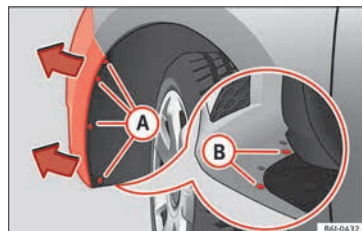

Fig. 106 Fog light: access to the connector and to the light bulb holder.
- Remove the 4 bolts ① » Fig. 106 from the inside of the wheel housing and the 2 bottom bolts ② » Fig. 106 from the bumper with a screwdriver.